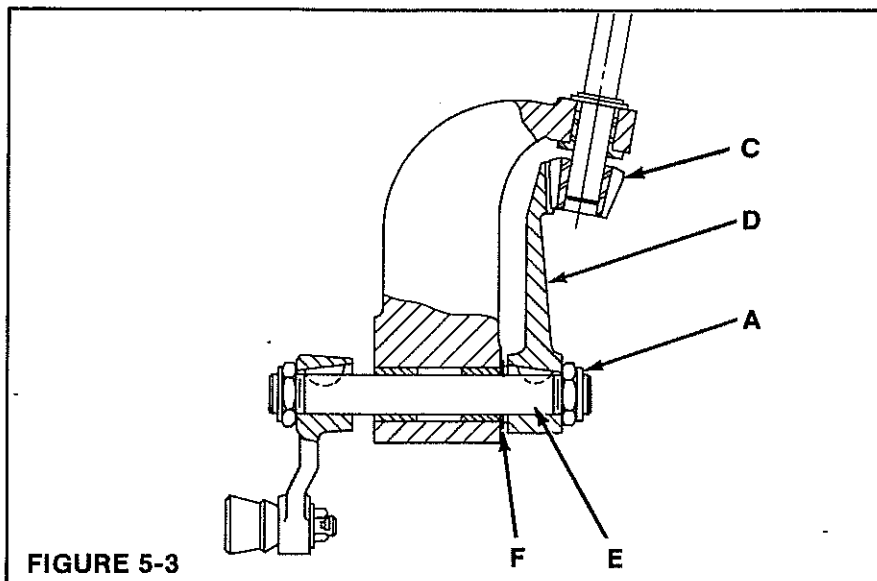

FIGURE 5-3
5. Remove stop nut (A) Figure 5-3.